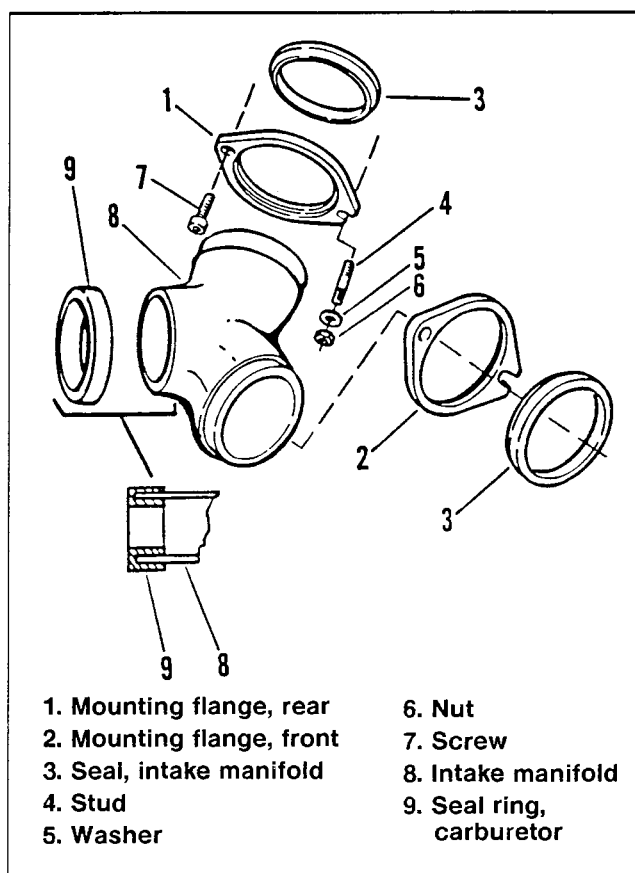

Figure 4. Aluminum Manifold Assembly
1. See Figure 4. Place flanges (1) and (2) removed from original manifold onto aluminum manifold (8).
2. Place new intake manifold seals (3) onto each spigot of manifold with chamfered edge against flanges (1) and (2)
3. Place channel of seal ring (9) over inlet end of manifold.
4. Position manifold (8) against intake ports of cylinder head with slotted hole in flanges (1) and (2) around studs (4) in cylinder head. Place washers (5) on studs (4). Loosely thread nuts (6) on studs (4). Insert Allen screws (7) through manifold flanges (1) and (2) and loosely thread into tapped holes in cylinder head.
8. See Figure 4. Tighten manifold flange nuts (6) and allen screws (7) to 6-10 ft lbs torque.